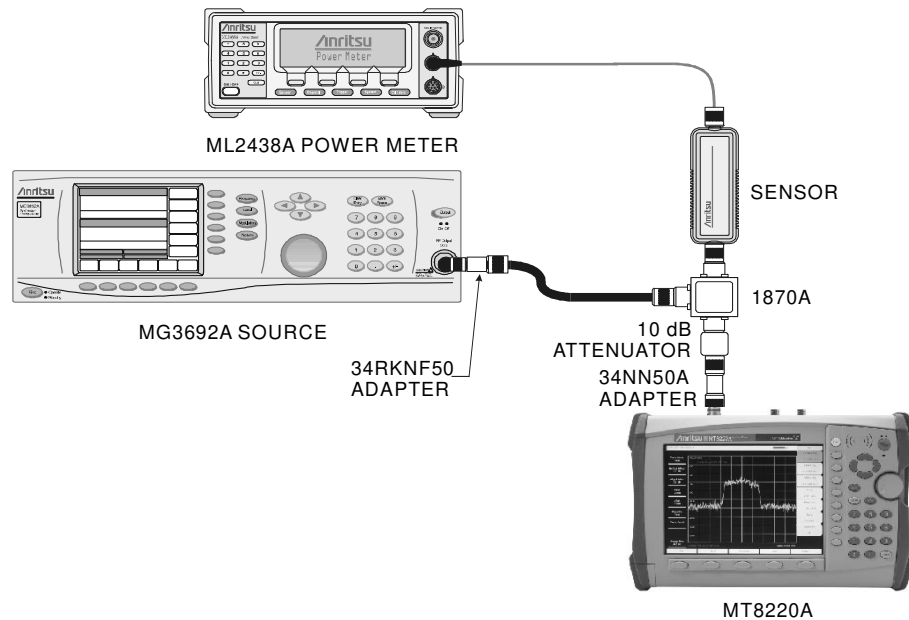

Figure 3. Level Accuracy Across Frequency Test Setup
1. Remove sensor A, install the 34NN50A adapter to the end of the Attenuator, and connect to the MT8220A as shown in Figure 3.
1. Remove sensor A add the adapter and connect it to the UMTS Master as shown in Figure 3.
5. On the UMTS Master, press the **Shift** key, the **Preset** (1) key, and then the **Preset** soft key to reset the instrument to the default starting conditions.